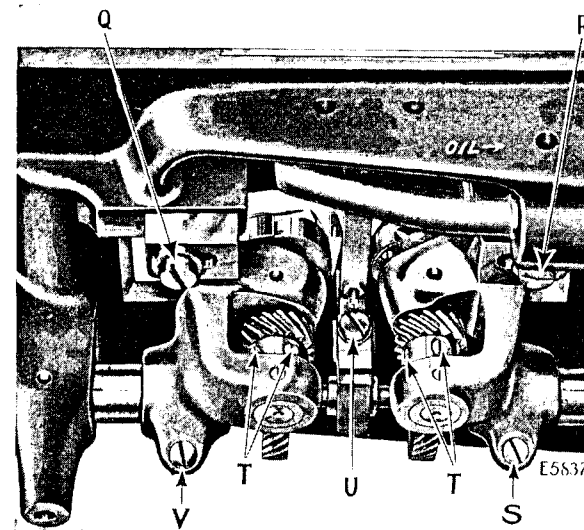
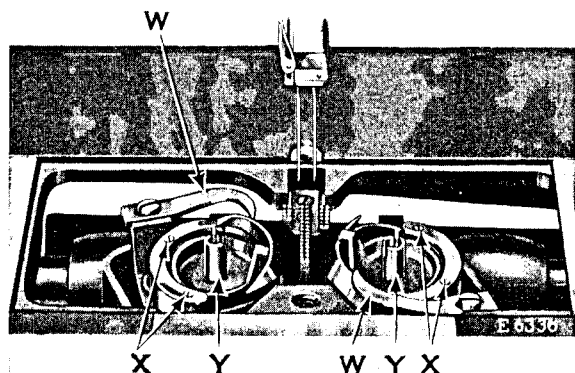
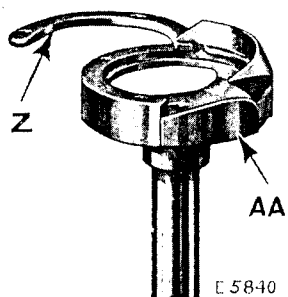

Fig. 22. Adjustment of Hook Saddles
Fig. 23. Removing Bobbin Case Bases
Fig. 24. Sewing Hook Removed from Machine Showing Hook Washer
In case the sewing hooks are not correctly timed, turn balance wheel over toward you until needle bar has descended to its lowest point and has risen until the lower timing mark across the needle bar is just visible at the bottom of the needle bar bushing. Then loosen the four screws (T, Fig. 22) in the hook shaft gears and turn the sewing hooks until the point of each hook is at the centre of its needle, after which securely tighten the four screws (T), leaving just enough end play to the shaft for lubricating purposes.
Turn the balance wheel over toward you until the points of the sewing hooks are at the centre of the needles. Loosen the four screws (Q, R, S and V, Fig. 22) underneath the bed of the machine and move the hook saddles to the right or left, as may be required, until the points of the hooks are as close to the needles as possible without striking them, then securely tighten the four screws (Q, R, S and V).
The needle guard washer (AA, Fig. 24) which is attached to the bottom of each sewing hook, should be sprung until it prevents the needles from striking the hooks in case the needles are deflected towards the hooks.
Remove the four hook gib screws (X, Fig. 23) from the sewing hooks, lift off the hook gibs (Z, Fig. 24) and remove the bobbin case bases (Y, Fig. 23).
Remove the throat plate, feed dog and the two bobbin case opening levers (W, Fig. 23). Also remove the bobbin case bases as instructed above, then take out the four screws (T, Fig. 22) from the hook shaft gears and lift out the sewing hooks.
Remove the throat plate; clean the lint and dust from between the feed points and replace the throat plate; tip the machine back and turn the balance wheel towards you until the feed dog is at its highest position; loosen screw (U, Fig. 22, page 23) in the feed lifting cam fork and raise or lower the feed dog, as may be required, and retighten the screw (U).